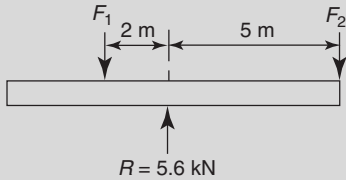

Figure A2.1
1. A moment of 18 N m is required to operate a lifting jack. Determine the effective length of the handle of the jack (in millimetres) if the force applied to it is (a) 90 N (b) 0.36 kN (6)
2. For the centrally supported uniform beam shown in Figure A2.1, determine the values of forces  $F_1$  and  $F_2$  when the beam is in equilibrium. (7)